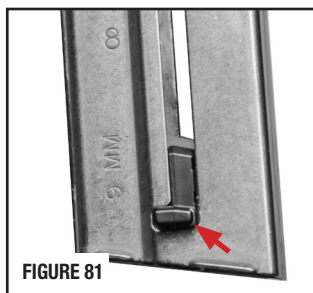
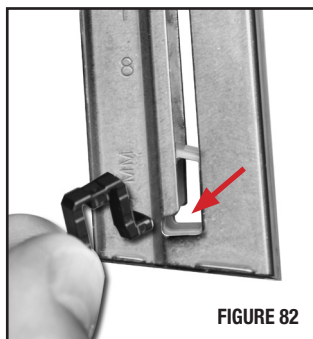

FIGURE 81
FIGURE 82
- Slide the follower and load assist button down to the bottom of the tube where the wider hole (FIGURE 81) will allow the load assist button to be removed from the side of the magazine tube where the hole matches the shape of the load assist button (FIGURE 82).